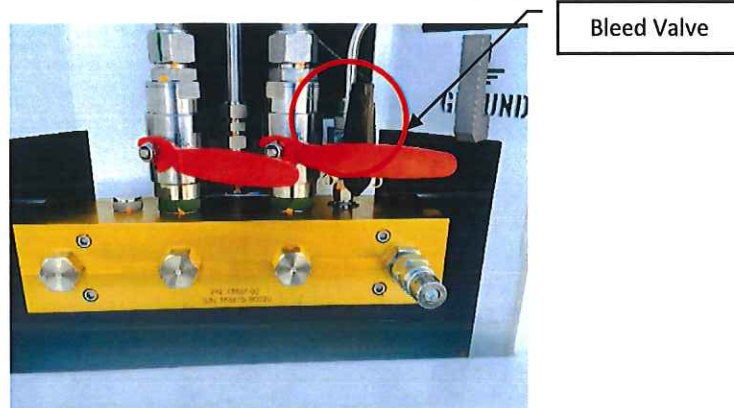

Figure 16: Bleed Valves shown "Open"
6. Open the bleed valve as shown in Figure 16. This is to ensure there is no pressure in the manifold before connecting fill lines